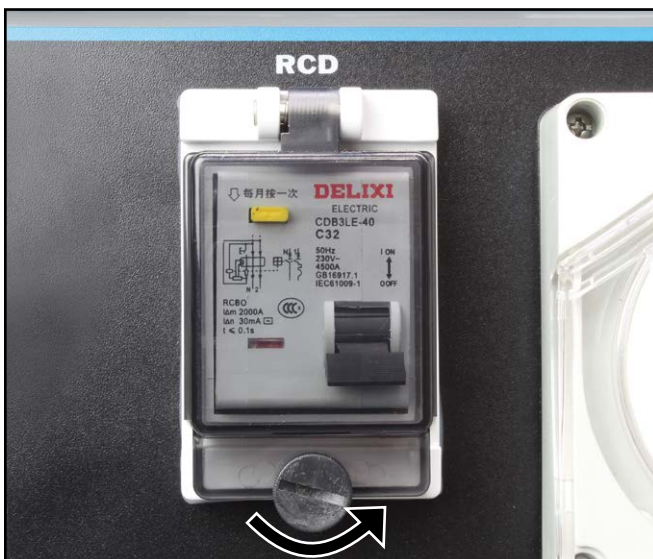

Figure 54 – Opening the RCD Safety Switch Cover
2. Turn the locking screw on the RCD safety switch cover anti-clockwise by hand (see *Figure 54*) until the cover is released.